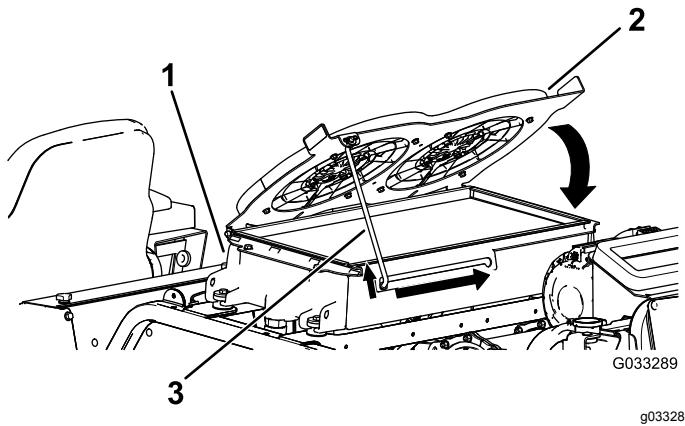

Figure 110
4. Pivot the hydraulic-cooling fans downward and lock the prop rod into the notch (Figure 110).